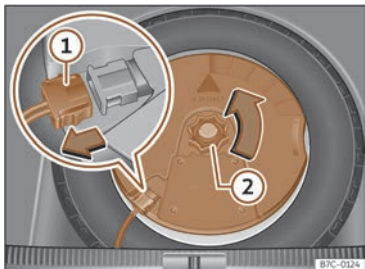

Fig. 238 In the boot: remove the subwoofer.
- Disconnect the subwoofer's speaker cable >>> Fig. 238 ①.
- Turn the securing wheel anti-clockwise >>> Fig. 238 ②.